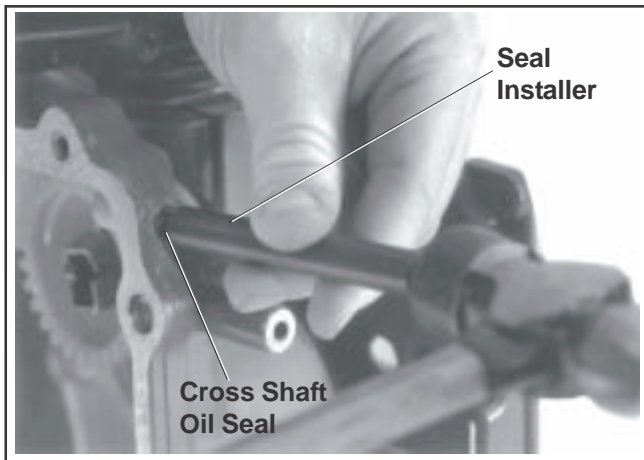

Figure 11-2. Cross Shaft Oil Seal.
- Using the **an oil seal installer**, install a new governor cross shaft oil seal into the crankcase. See Figure 11-2.